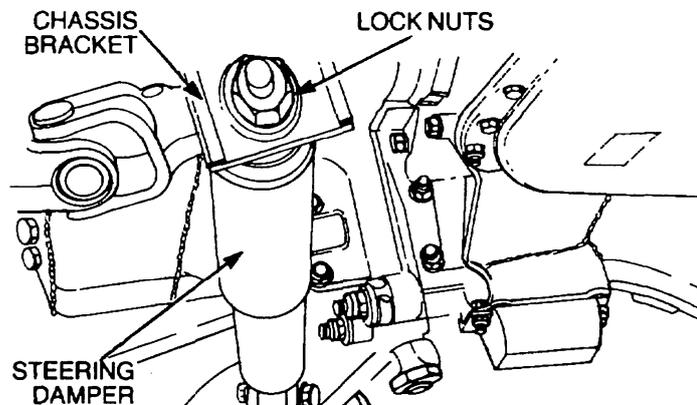

Figure 165 Steering Damper to Chassis Bracket Removal
- a. Remove the two nuts securing the steering damper to the chassis bracket and remove the rubber bushes and cup washers (Figure 165).